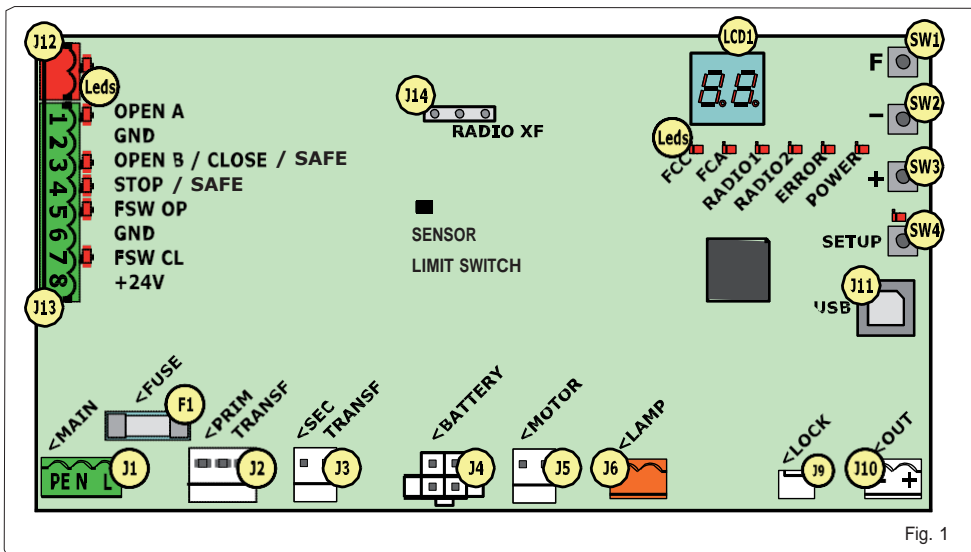

Fig. 1
Turn the release clockwise as shown in Fig. 1 re. 1. The release lever will move slightly away from the operator body (Fig. 1 re. 2)
Fully lower the release lever to the mechanical stop Fig. 1 re. 3.
**If no BUS-2EASY accessory is used, leave the BUS-2EASY connector (J12 - fig. 1) free.**